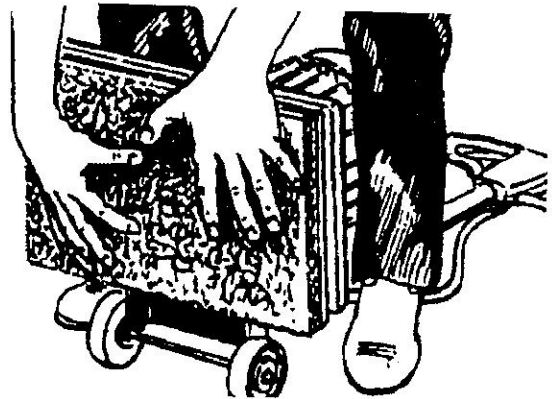

Figure 3
- D. Press pad against grip face until the hooks in the driver have set in the pad (see Figure 3).